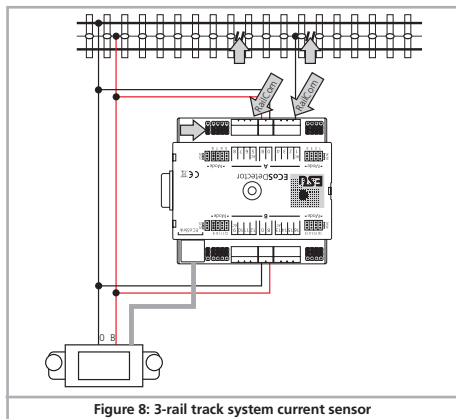

Figure 8: 3-rail track system current sensor
- Connect the inputs „0“ and „B“ of the ECoSDetector with the appropriate booster output. In the example shown in figure 8 both feedback groups „A“ and „B“ are supplied by the same booster. Therefore the terminals “0” and “B” on both sides of the ECoSDetector must be connected with each other. If you use a separate ECoSBoost for group “B” (feedback inputs 9 through 16) then the